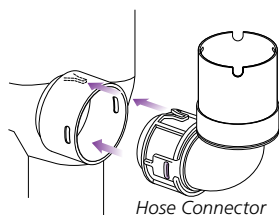

Fig. 1
- 2** Insert the hose connector into the opening on the back of the vacuum body. (**Fig. 1**)